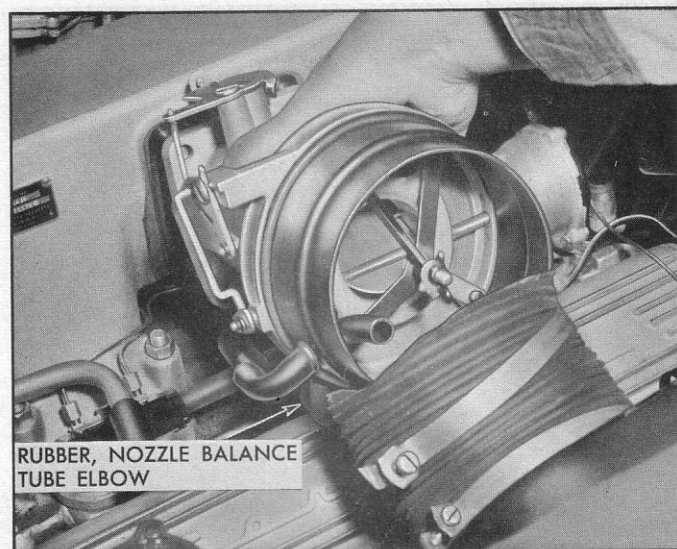

Fig. 83—Installing Air Meter Assembly
1. Carefully install air meter assembly to manifold, simultaneously aligning rubber elbow at nozzle vent tube (fig. 83). Install retaining nuts and lockwashers.